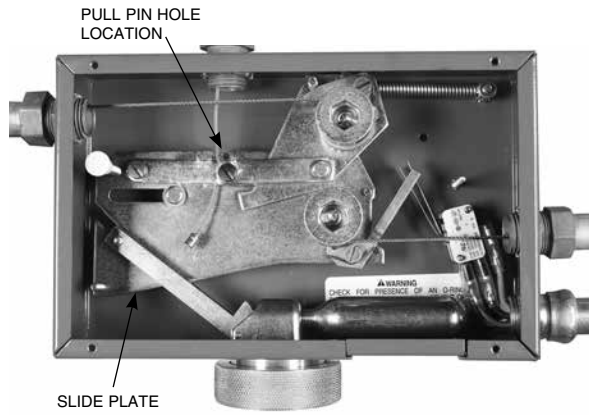
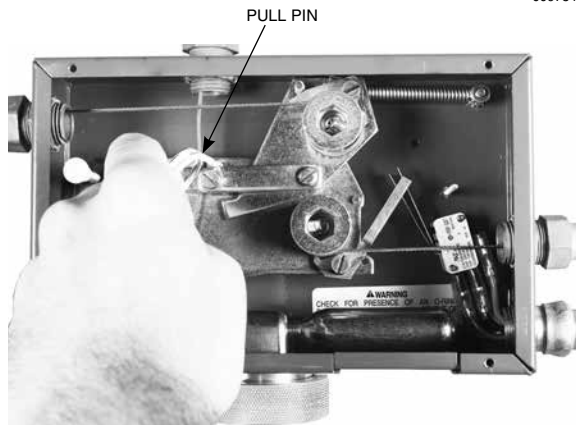

FIGURE 3
FIGURE 4
4. After removing cover, insert pull pin into the indicated hole in the slide plate above the latching arm. See Figure 3 and Figure 4.